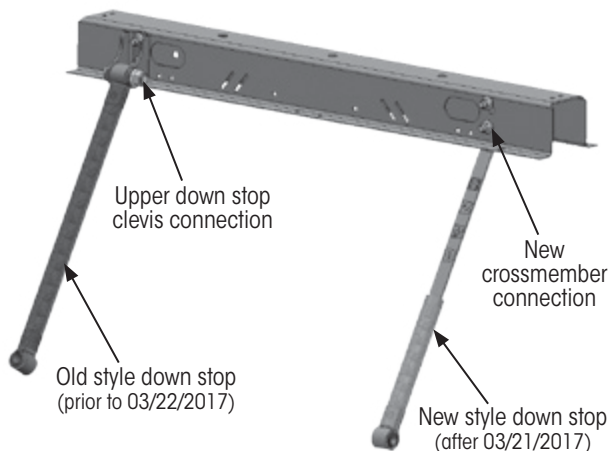

Figure 1: Down stop replacement
ZMD® ZERO MAINTENANCE DAMPING®, standard on ULTRAA-K® slider suspension systems, includes two major components: air springs and down stops. The down stop replacement kit includes one down stop and hardware (Figure 1).
2. If replacing an old style down stop (Figure 1), remove the upper down stop clevis from the crossmember.